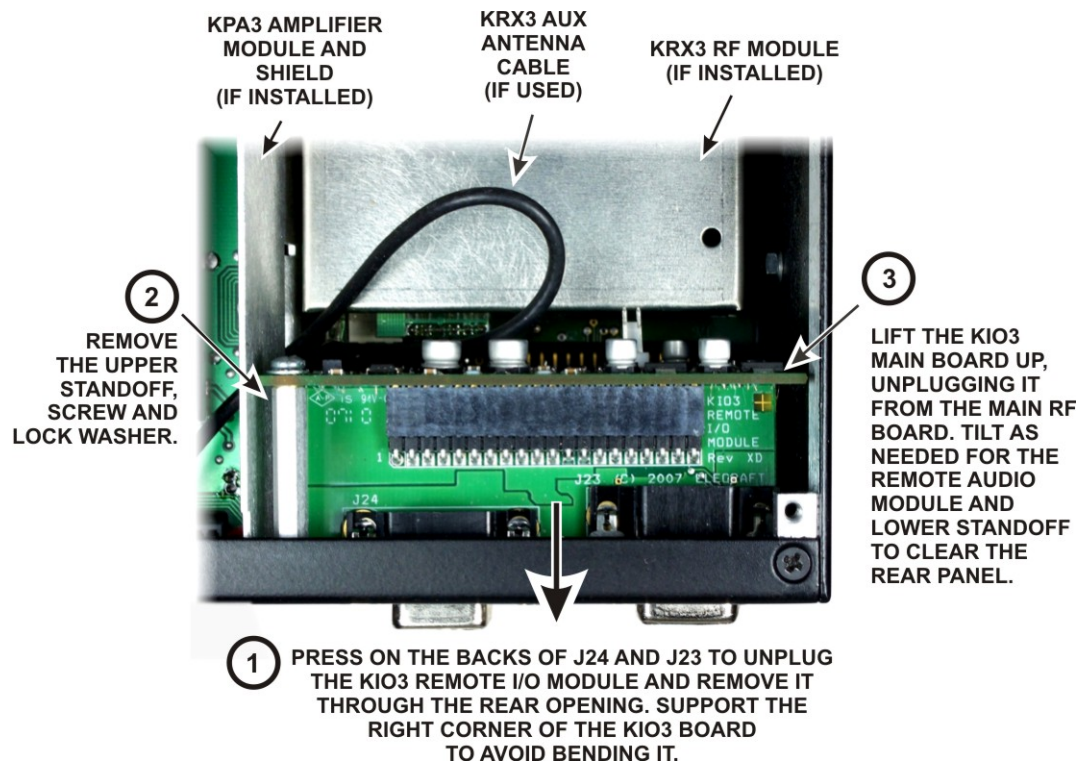

Figure 3. Removing the KIO3 Main Board.
- ☐ Remove the KIO3 main board as shown in Figure 3.
- Replace the KIO3 main board by reversing the procedure shown in Figure 3: